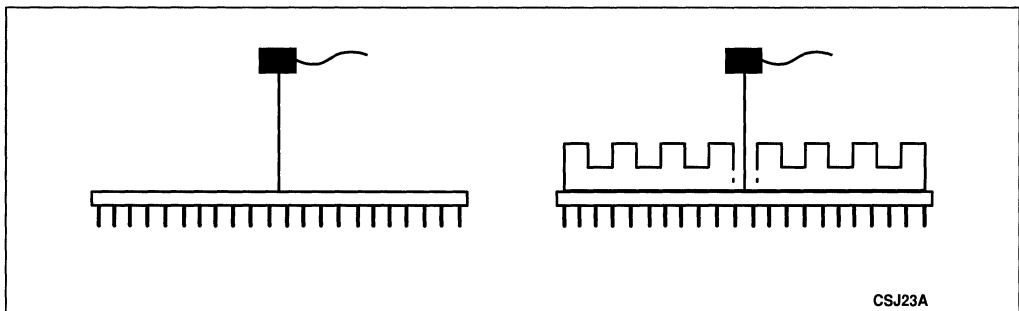

Figure 10-1. Technique for Measuring T_{case}
- The thermocouple should be attached at a 90 degrees angle as shown in Figure 10-1. The measurement is made in the same way with or without a heatsink attached. When a heat sink is attached a hole should be drilled through the heat sink to allow probing the center of the package.